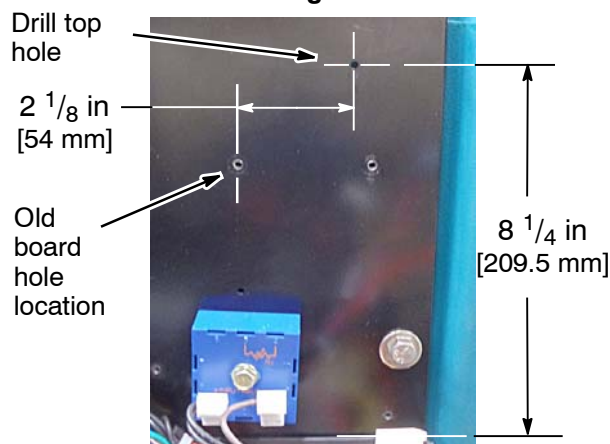

Fig. 3
4. Mount the new module to panel. Using a 9/64" drill bit, drill the top mounting hole location as described. For the bottom hole, use the module as a drill template (Figure 3).